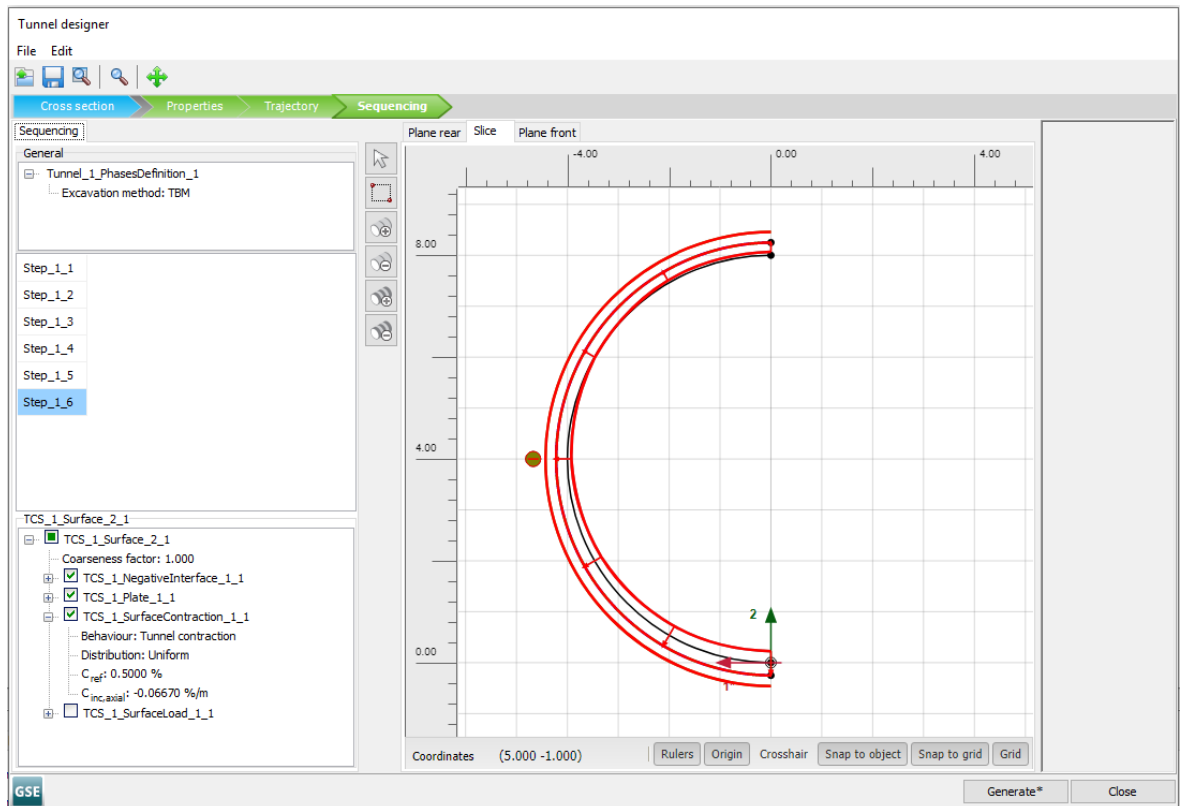

Figure 5–18: *Slice* tab Tunnel designer <Step_1_6> Definition of surface contraction
- In the **Selection explorer** select the **Surface contraction** > **Distribution** > **Uniform** option with $C_{ref} = 0.5\%$ (Figure 5–18 (p. 100)).